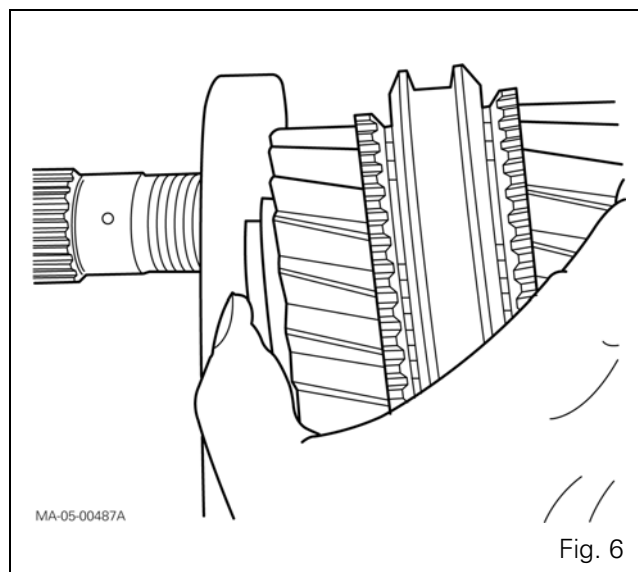

Fig. 6
- fit the bearing cone (17) onto the shaft (69) using a press and a suitable fixture;
- refit the washer with flat sections (77), with the lubricating grooves facing towards the 1st gear (7);
- refit the snap ring (70).
24. Assemble the cups (2) and (16) inside the housing.
25. Refit the 1st, 2nd gear assembly, the synchroniser (11), the cones (73) (74) and the ring (8) into the housing.
26. Fit the shaft from the rear of the housing while supporting the gear/synchroniser assembly (Fig. 6), and ensuring that the ring (8) is correctly fitted in the gear (14).